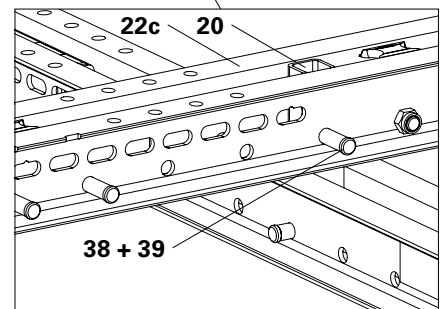

Fig. B4.04b
3. Position pre-assembled main beam (22c) on the Cross Connector VARIOKIT (20) and mount with fitting pins and cotter pins. (Fig. B4.04b)